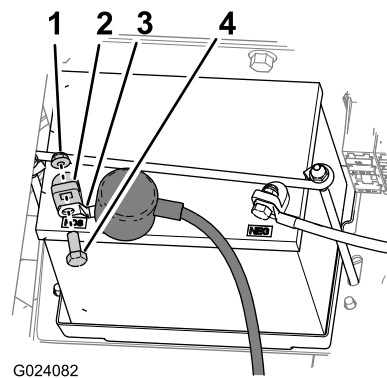

Figure 2
5. Slide back the insulator cover and remove the bolt and nut that secures the terminal of the positive-battery cable to the positive post of the battery. (Figure 2).